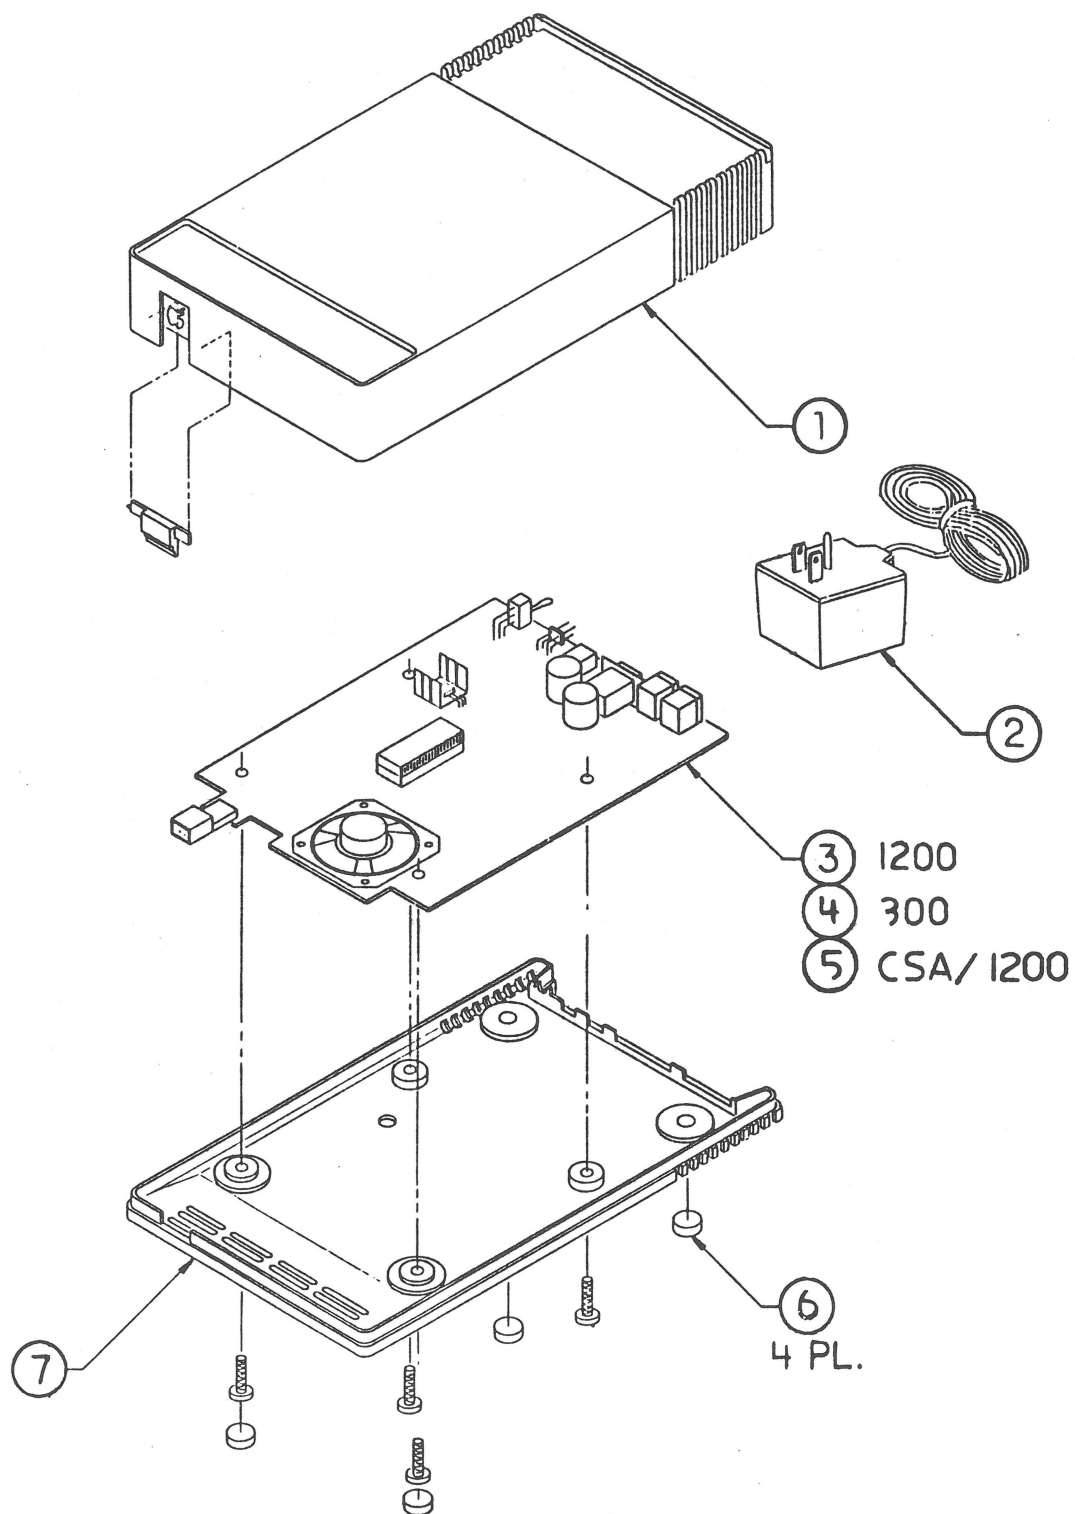

FIGURE 1
- IPL.3 Apple 300/1200 Modems (Figure 1)
□ APPLE 300/1200 MODEMS (Figure 1)